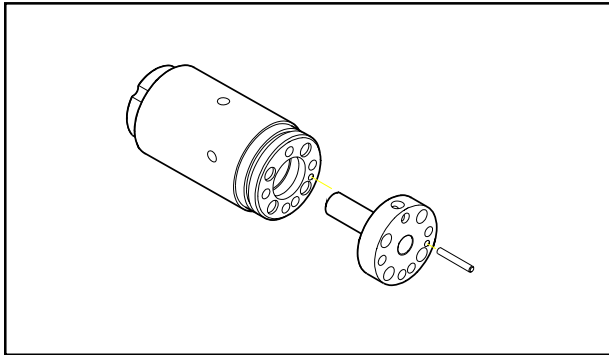

Figure 3
6. Install the tube with dowel pin installed onto the cylinder. See figure 3.